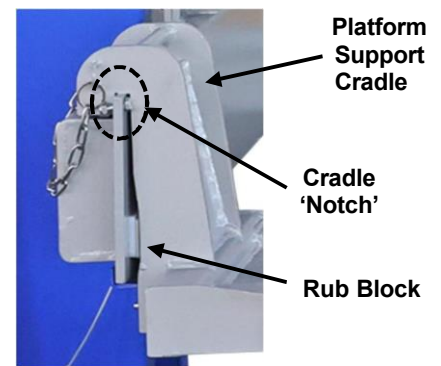

Fig. 12
- 2) Using a forklift, dolly, or pallet jack, position the (right & left) platform to bolster beam's specific side and carefully 'hang' onto the bolster beam, ensuring the 'notch' at the top of the platform's support cradle is fully seated onto bolster beam. **Fig. 12** (The nylon rub block mounted to the backside of the platform support cradle is designed to support loads, while also allowing the ease to adjust platforms.) **Fig. 12.**